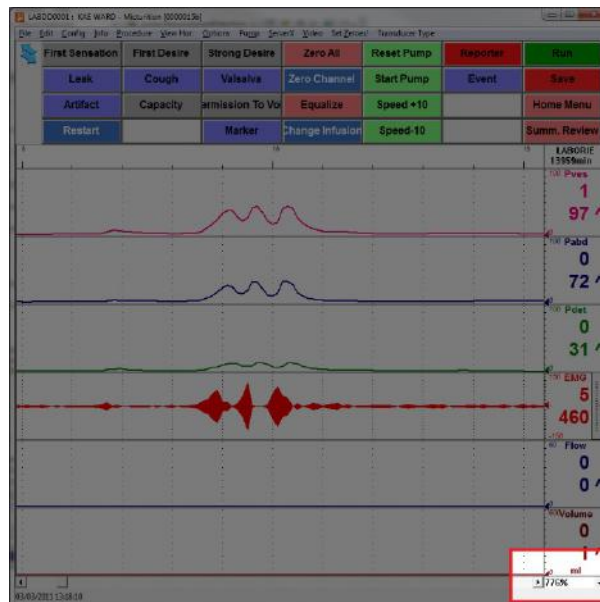

Figure 58: Selected Area Zoomed
2. Click **Edit > Zoom Selected Area**. The selected area is zoomed in and expands to fill the entire graph window (Figure 58).